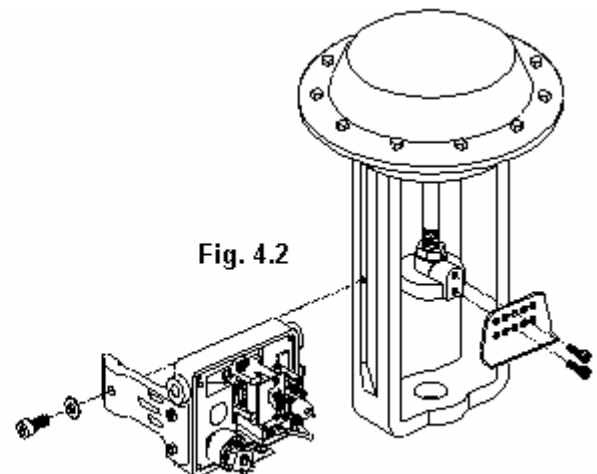

Fig. 4.2
1. Check Fig. 4.2 for correct orientation of positioner.